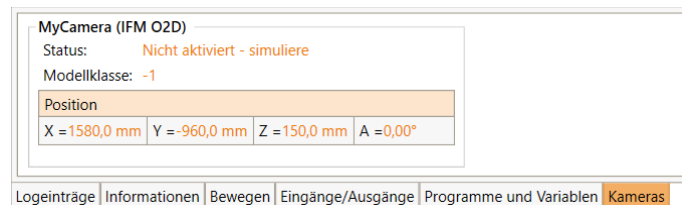

Figure 48: Camera status area
- CRI interface: The image is transmitted via the Ethernet interface to iRC and can be observed there in the camera status area (see fig. 48).